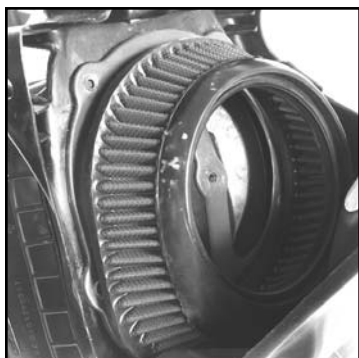

Fig. 1
- 5) Install the base of the filter into the air box and against the backing plate. (Fig. 1)